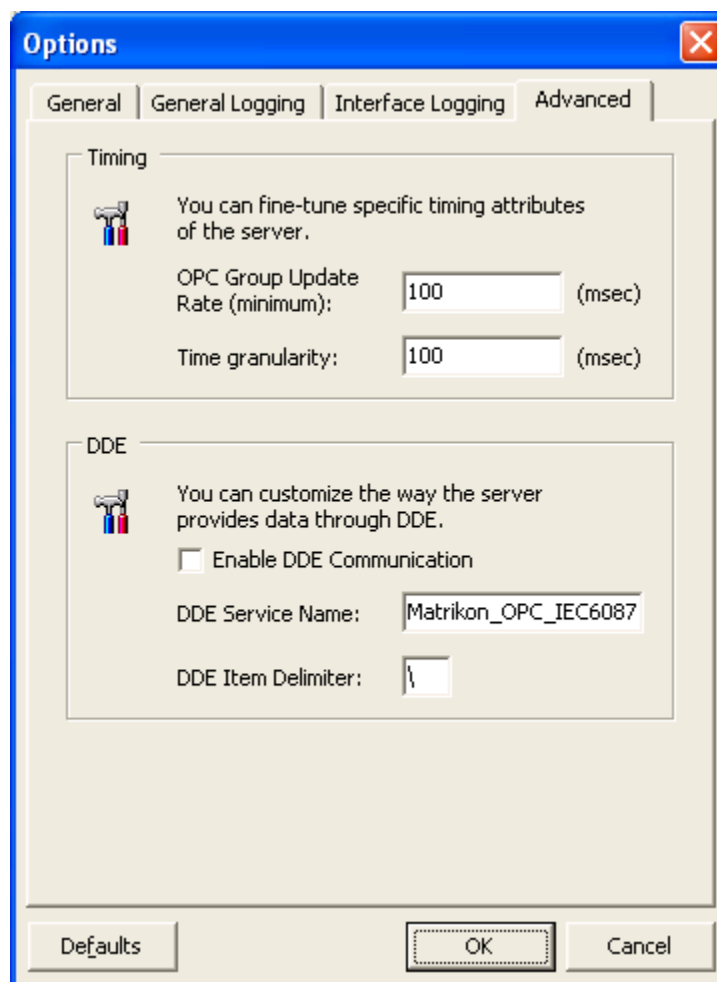

Figure 18 - Advanced Options Tab
3. From the **Options** window, select the **Advanced** tab to display the Advanced options (Figure 18).